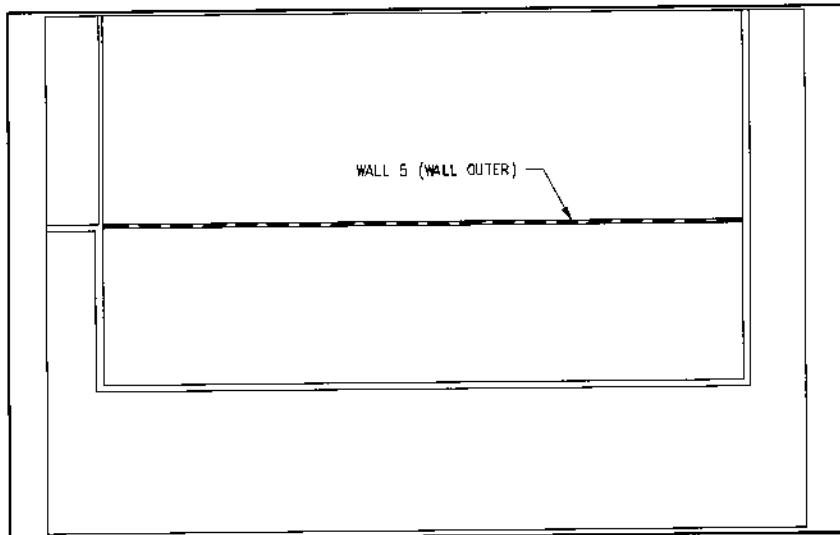

Figure 28.
6. The completed double wall with the centerline is shown in Figure 28.